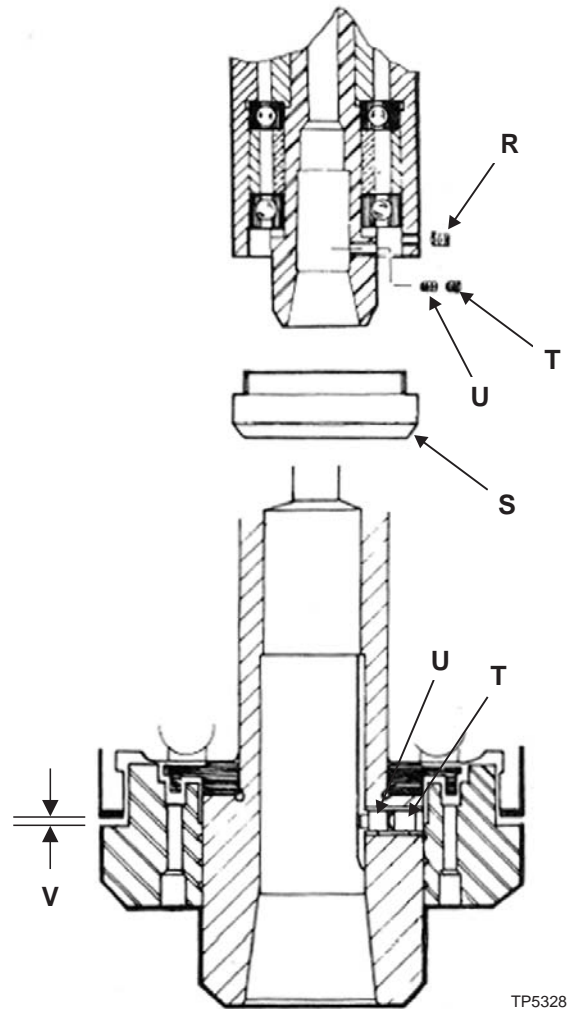

Figure 8.9 - Collet Aligning Screw Replacement
1. Use felt pen, mark reference line on quill and nose cap "S", Figure 8.9.